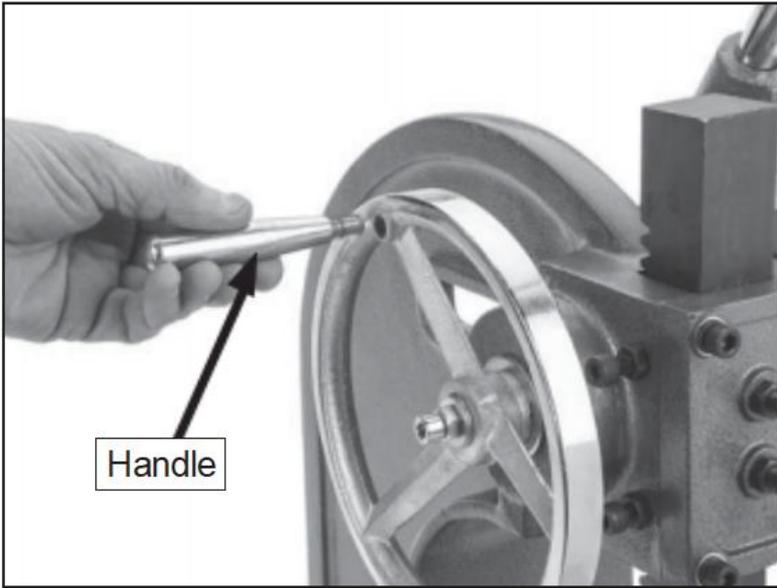

Figure 6. Attaching the handle to the handwheel.
1. Attach the handwheel handle to the handwheel (see **Figure 6**).